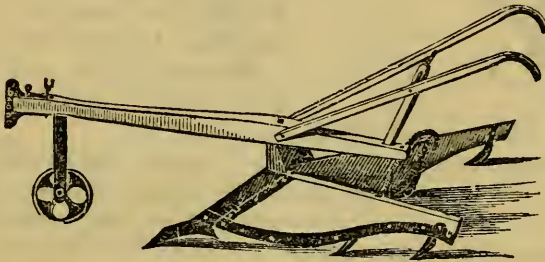

Fig. 150—SHARES' CULTIVATOR.
**SHARES' CULTIVATOR.**—This implement (fig. 150) we have not tried,